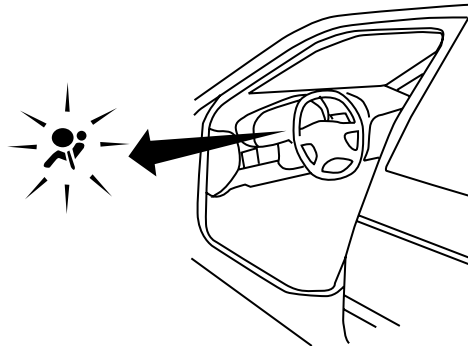

Figure 14-24 Airbag warning lamp
2. After the Airbag warning lamp (Figure 14-24) lights for 7 seconds, turn ignition switch off within 1 second.